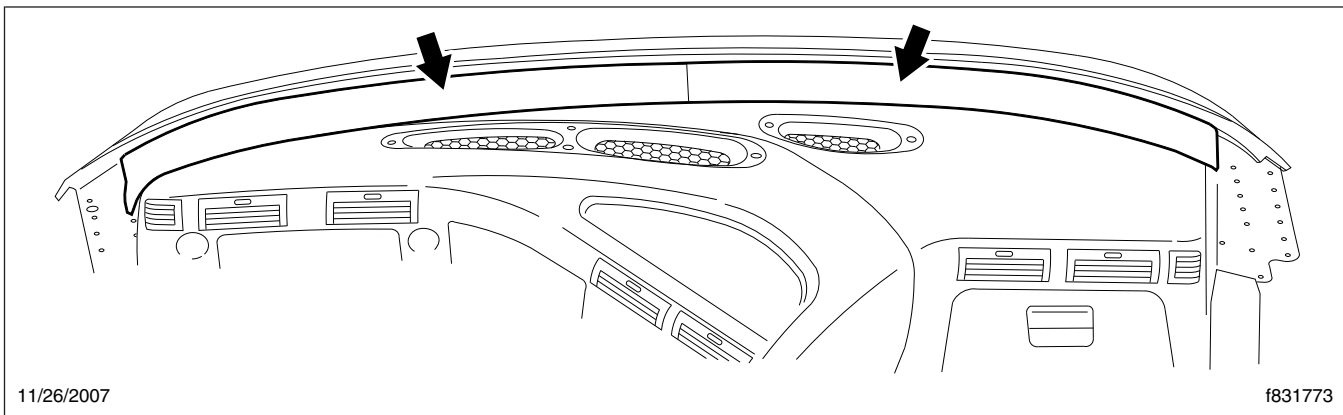

Fig. 5, Upper Dash Trim Panel
12. Remove the trim panel between the top of the dash and the windshield. See Fig. 5.